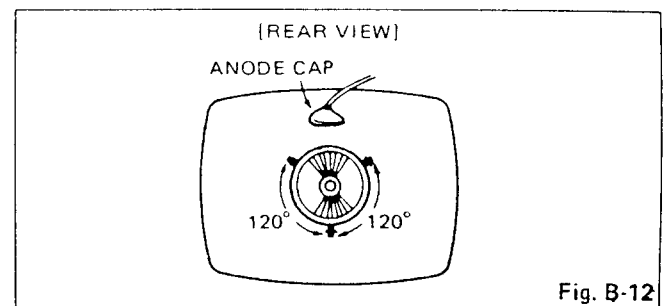

Fig. B-12
9. Insert three wedges to the position as shown in Fig. B-12 to obtain the best circumference convergence.